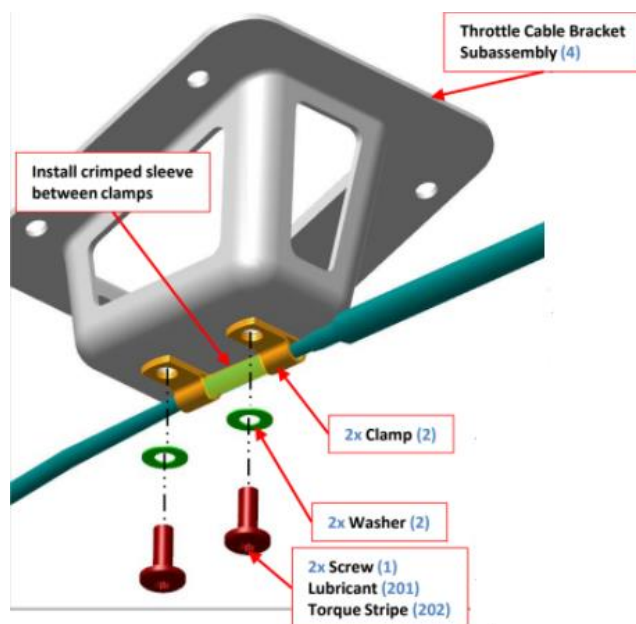

Figure 5: Throttle Bracket Subassembly
4. Sub assemble the bracket to the conduit by attaching the conduit to the throttle bracket using two AN742F3 P-clamps and two 10F50MTT3 screws with NAS1149C0316R washers as shown in Figure 5 below. Ensure that crimped sleeve on the conduit is between the p-clamps Torque fasteners to 26 in-lb. Note: if the P-clamps do not fit perpendicular to throttle conduit because the crimped sleeve is slightly long it is permissible to open up the holes on the bracket slightly to allow the anchor nut to float further.